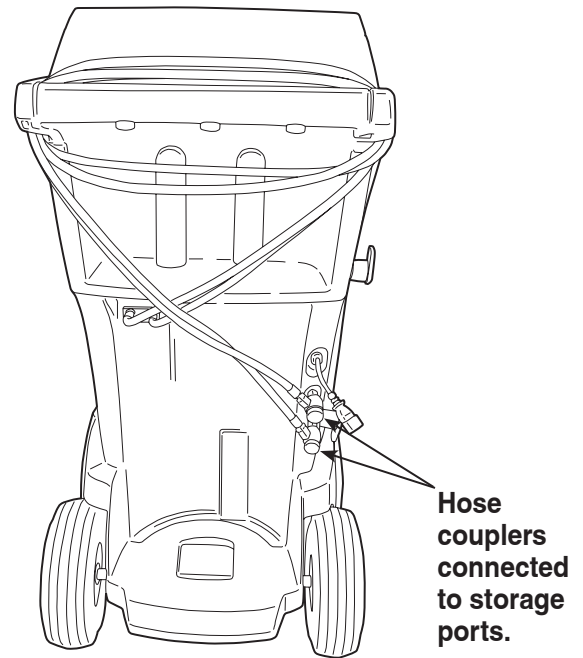

Figure 23
2. Loop the service hoses around the handle twice and attach them to the storage ports. See Figure 23.